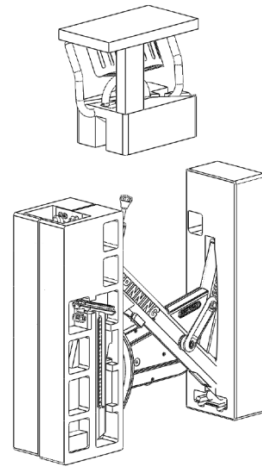

Fig 4
4. Remove the following: handle bar & its packaging (Fig. 4) from the center packed location.